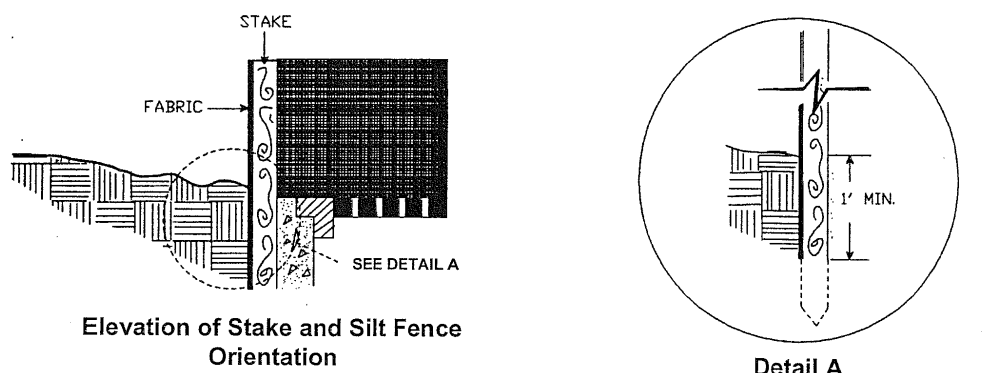

Figure 1
**Silt Fence Inlet Protection - IP-SF** This method of inlet protection is applicable where the inlet drains a relatively flat area (slope no greater than 5%) and should not apply to inlets receiving concentrated flows, such as in street or highway medians. As shown in Figure 1, Type C silt fence supported by 2x4-inch wood or equivalent steel posts, with a